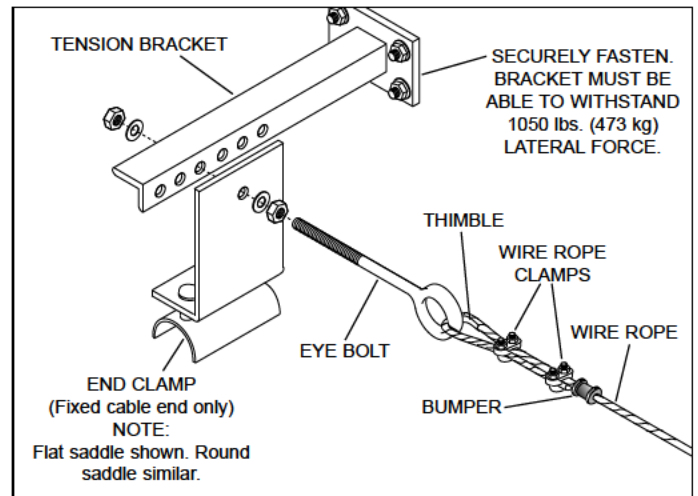
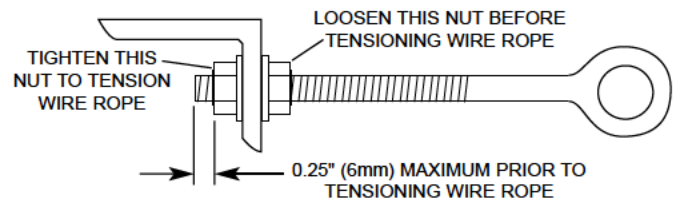

Figure 3
Figure 4
STEP 1– Mount tension brackets or other suitable device for holding stretched wire rope. See Figure 3.
STEP 2– Install eye-bolts in tension brackets with end clamp on fixed cable end of system only. See Figure 3. Eye-bolt should protrude maximum 0.25”(6mm) through nut (Fig. 4).
STEP 3– Slide rubber bumper onto wire rope. Thread wire rope through eye-bolt on one end of system. Install thimble in loop. Secure wire rope with two (2) cable clamps. See Figure 3. Repeat on other end, pulling wire rope as tight as possible before securing.
STEP 4– Tighten wire rope by turning nuts on eye-bolts. See Figure 4.